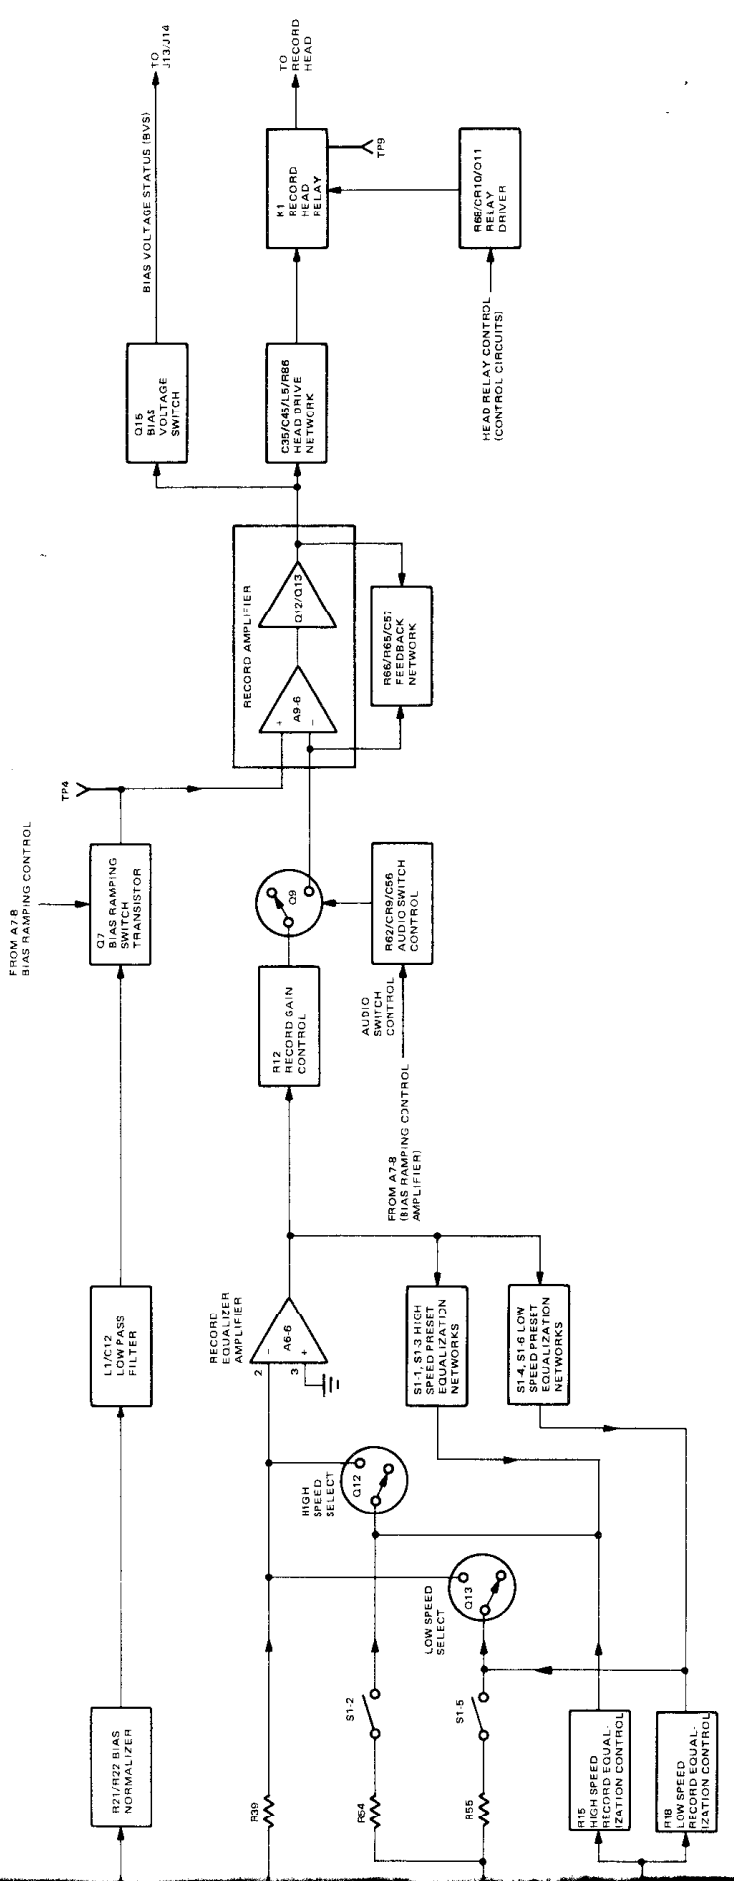

Figure 4-20. Audio Record Circuits, Simplified Block Diagram
**4-74. Record Circuits.** As shown in Figure 4-20, the main part of record equalization is performed by amplifier A6-6 in conjunction with an active differentiator formed by amplifier A5-6, input capacitor C5, and feedback resistor R40.